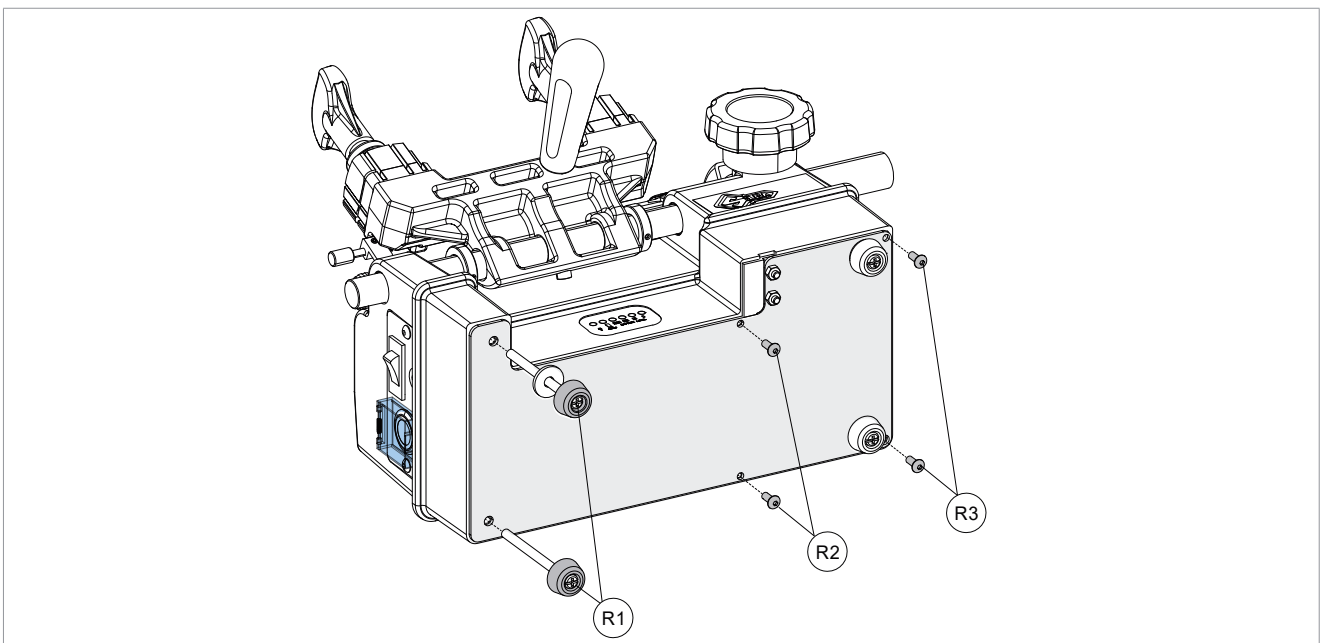

Fig. 38
- 1) Carefully turn the key-cutting machine onto its back as shown in picture (Fig. 38).